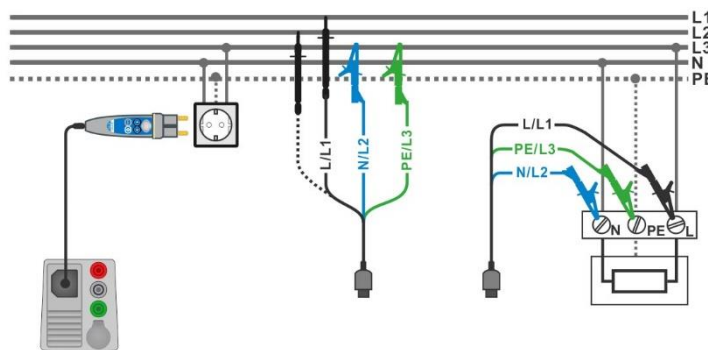

Figure 7.113: AUTO TN measurement
- › Connect 3-wire test lead or Plug commander to the object under test, see **Figure 7.113**.